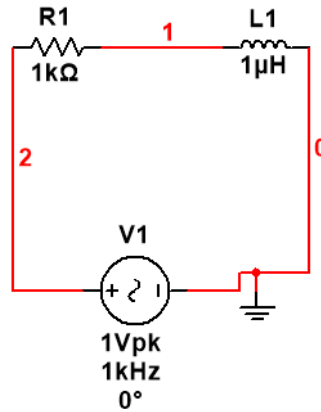

Fig1: RL Circuit
1. Construct RL circuit as shown in fig1 using Multisim simulation software.